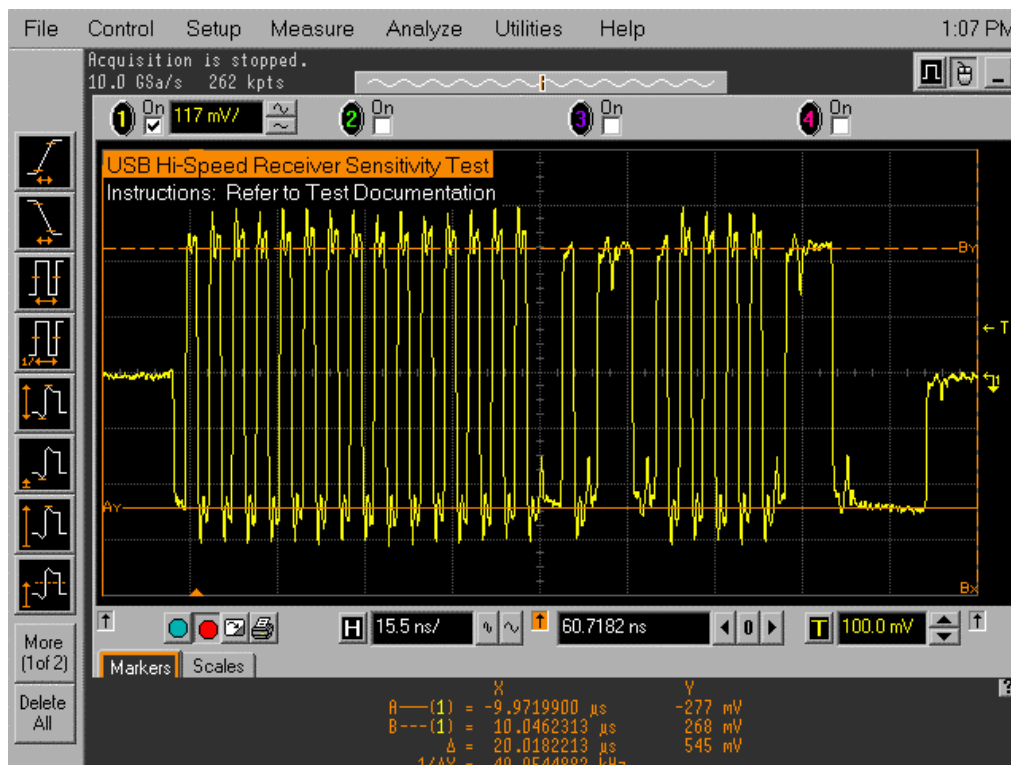

Figure 34. Measuring the Packet Amplitude
- c. Repeat this step until the packet becomes adequate size for the measurement (see Figure 34)
15. Using the oscilloscope markers, measure the packet amplitude (Figure 34) ...